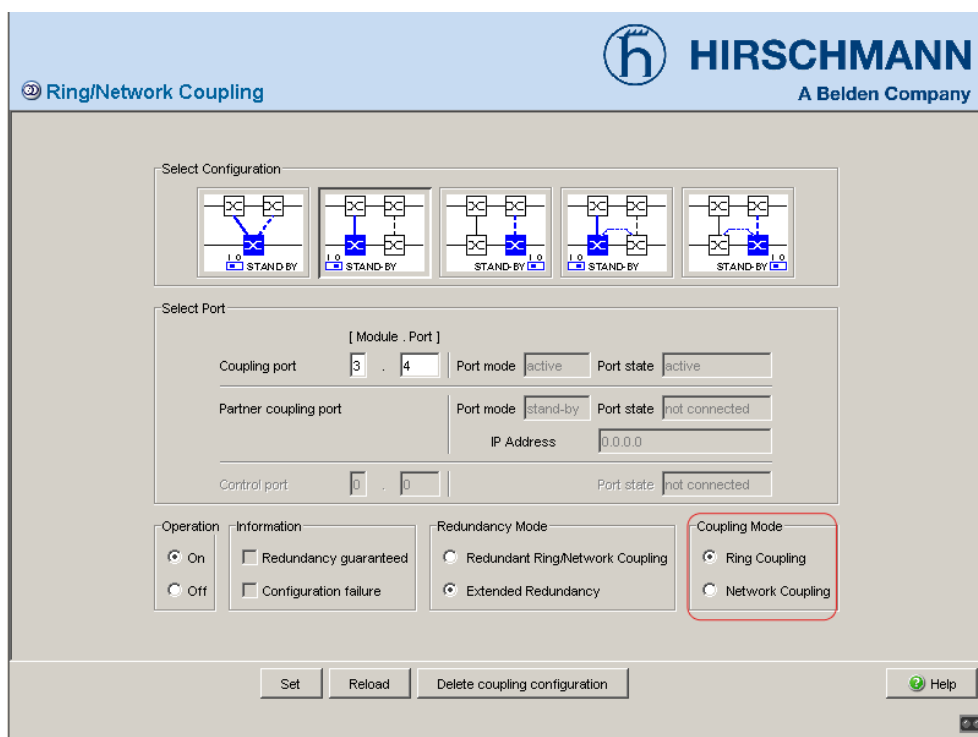

Fig. 24: Selecting the coupling mode
- Select in the frame "Coupling Mode" (see Fig. 24)